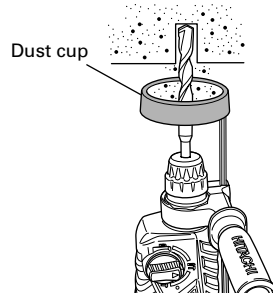
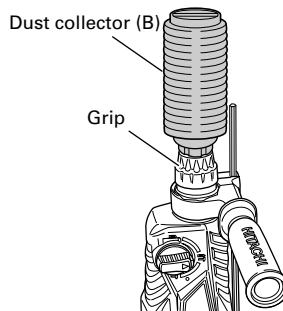

Fig. 3
Fig. 4
### 5. Installation of dust cup or dust collector (B) (Optional accessories) (Fig. 3, Fig. 4)
Use the dust cup by attaching to the drill bit as shown in Fig. 3.
- Installing dust collector (B)
When using dust collector (B), insert dust collector (B) from the tip of the bit by aligning it to the groove on the grip (Fig. 4).